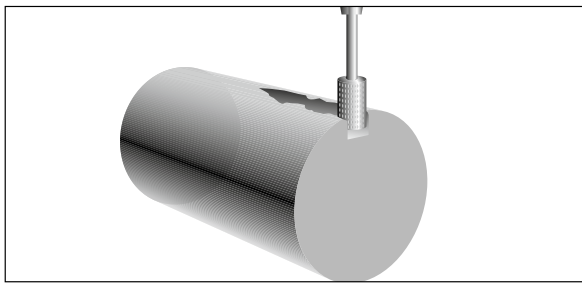

Figure 20. Roughen the damaged surface.
1. **PREPARE SURFACE:** To prepare the surface, follow the Surface Preparation Section. Roughen the surface with a file or rotary cutting/grinding tool and degrease again. (See *Figure 20*)